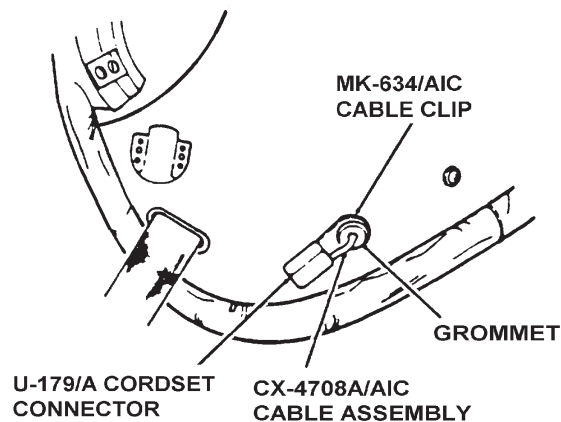

Figure 3-7. Cable Assembly
- g. Referring to Figure 3-7, remove the U-179A/U cordset connector from the MK-634/AIC cable clip.